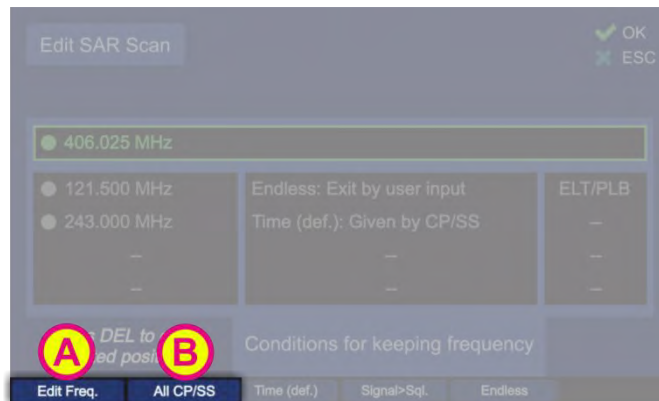

Figure 51. Alternating hotkeys
- The hotkey “Edit Freq.” is only visible if the COSPAS-SARSAT frequency (top frequency) or one of the free selectable frequencies is marked (s. Figure 51, position A). By pressing this hotkey the frequency input dialog will open.
- The hotkey “All CP/SS” is only visible if the COSPAS-SARSAT frequency is marked (s. Figure 51, position B). By pressing this hotkey a COSPAS-SARSAT scan will be started in order to find an active COSPAS-SARSAT frequency during SAR scan algorithm.